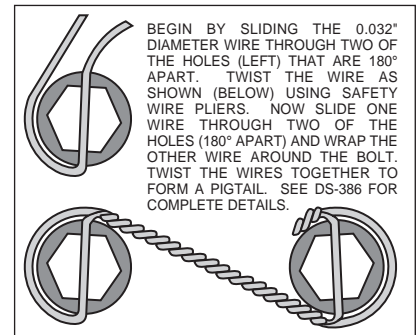

Figure 3. Safety Wire Diagram
- Apply red *Loctite*® 271 to bolt threads (2) before assembly of the caliper bracket (1) to backing plate face of spindle. Position the caliper mounting bracket (1) onto the spindle while positioning spacers (3) between bracket and spindle face. Slip the mounting bolts (2) into the threaded spindle holes, finger tighten. Torque two bolts (2) to 30 ft-lb. **NOTE:** Be sure the heads of the caliper bracket (1) insert nuts are facing outward toward the wheel.
- Install five new wheel studs (4) into the hub (5). Torque to 77 ft-lb. **NOTE:** There are two five lug patterns in the hub (5 x 4.50 and 5 x 4.75). Make sure of the correct hole pattern for the correct wheel application before installing studs into hub.
- Pack the large inner bearing cone (6) with high temperature disc brake bearing grease (available from your local auto parts store) and install into the backside of the hub (5).
- Install the grease seal (7) by pressing into the backside of the hub (5).
- Attach rotor adapter (8) to rotor (9) using six bolts (10). **NOTE:** The flat side of the rotor (8) lugs face toward the rotor adapter (9) with the dished side of the rotor adapter (8) facing away from the rotor (9). Using an alternating sequence, apply red *Loctite*® 271 to the threads and torque bolts to 25 ft-lb. For an added measure of security, the bolts may be safety wired using standard 0.032 inch diameter stainless steel safety wire as shown in Figure 3. Please refer to Wilwood's data sheet DS-386 (available at [www.wilwood.com/Pdf/DataSheets/ds386.pdf](http://www.wilwood.com/Pdf/DataSheets/ds386.pdf)) for complete safety wire installation instructions.